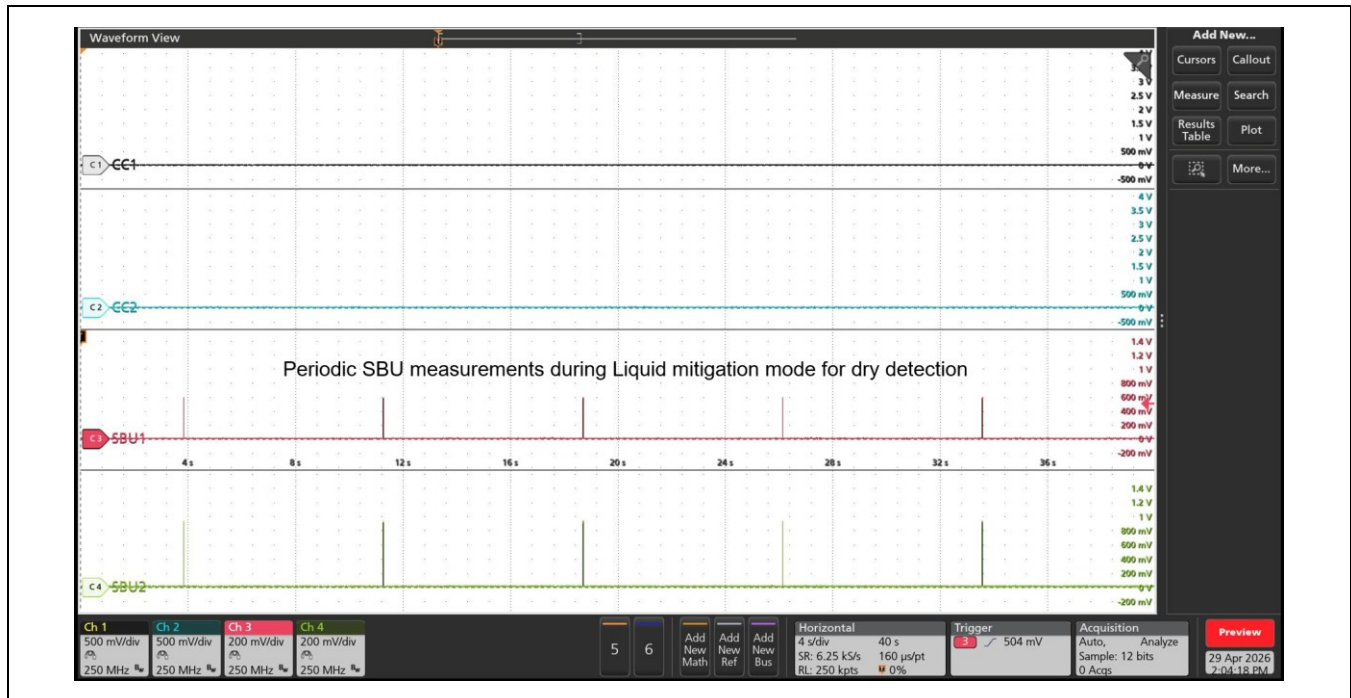

Figure 9. CC and SBU waveforms at corrosion mitigation mode
2. **Dry Detection.** In corrosion mitigation mode, the MAX77978 periodically applies the measurement current to SBU1 and SBU2 and compares the resulting voltages against the SBU dry threshold, as shown in Figure 9. While either SBU pin voltage remains below the threshold, the device remains in dry detection mode and continues toggling the SBU at the programmed period.